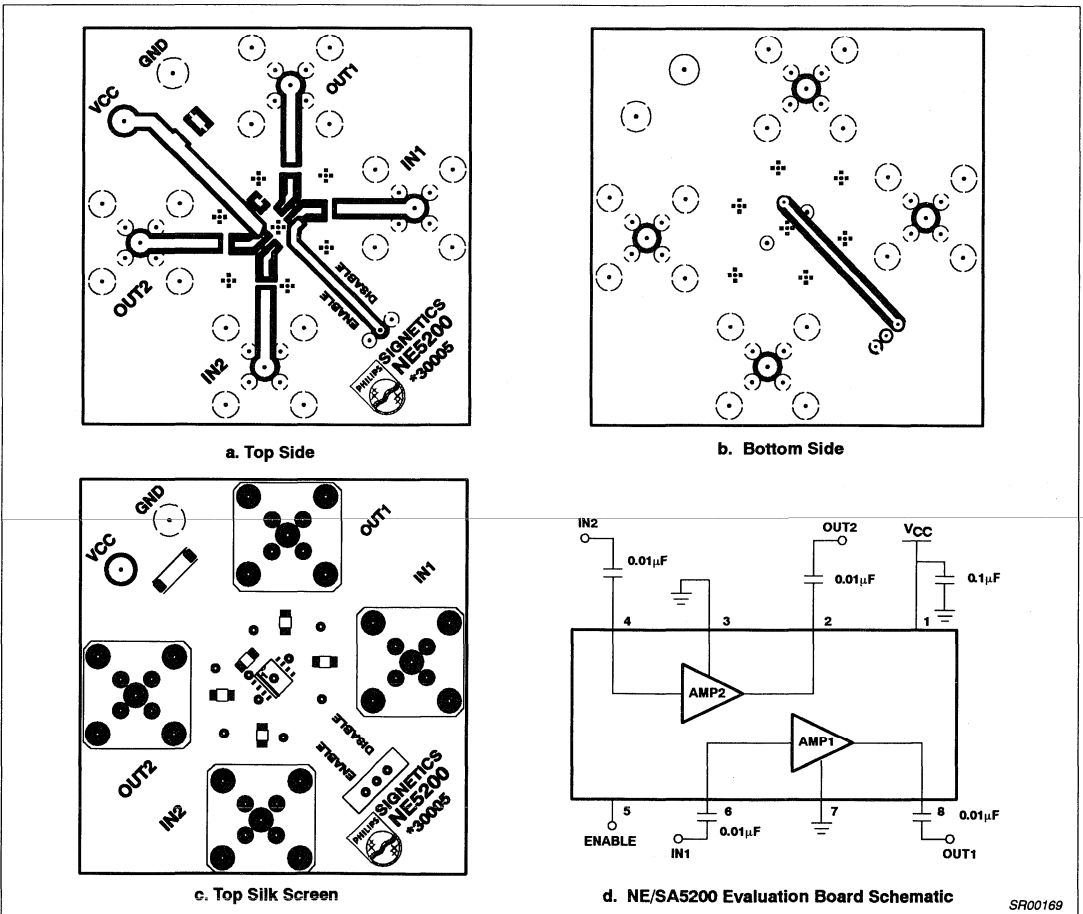

Figure 4. Printed Circuit Board Layout of the NE/SA5200 Evaluation Board
- All measurements include the effects of the NE/SA5200 Evaluation Board (see Figure 4). Measurement system impedance is 50Ω.